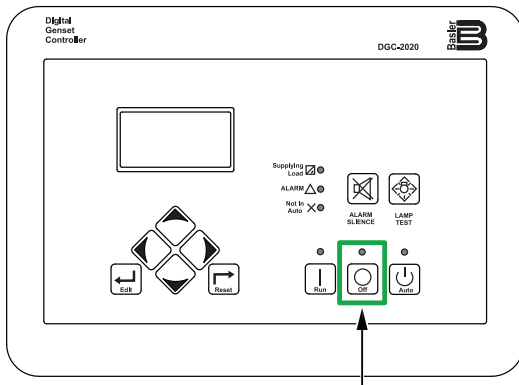

Figure 45. Digital Controller (OFF Button)
3. Press the **OFF button** on the digital controller (Figure 45) to stop the engine. The engine will stop after a 1-minute cool-down process.
When the remote contacts are opened, the engine will stop. To exit Auto mode, press the **OFF button** on the digital controller (Figure 45). The circuit breaker will automatically turn **OFF** and the engine will stop after a 1-minute cool-down process.
3. Press the **OFF button** on the digital controller (Figure 45).